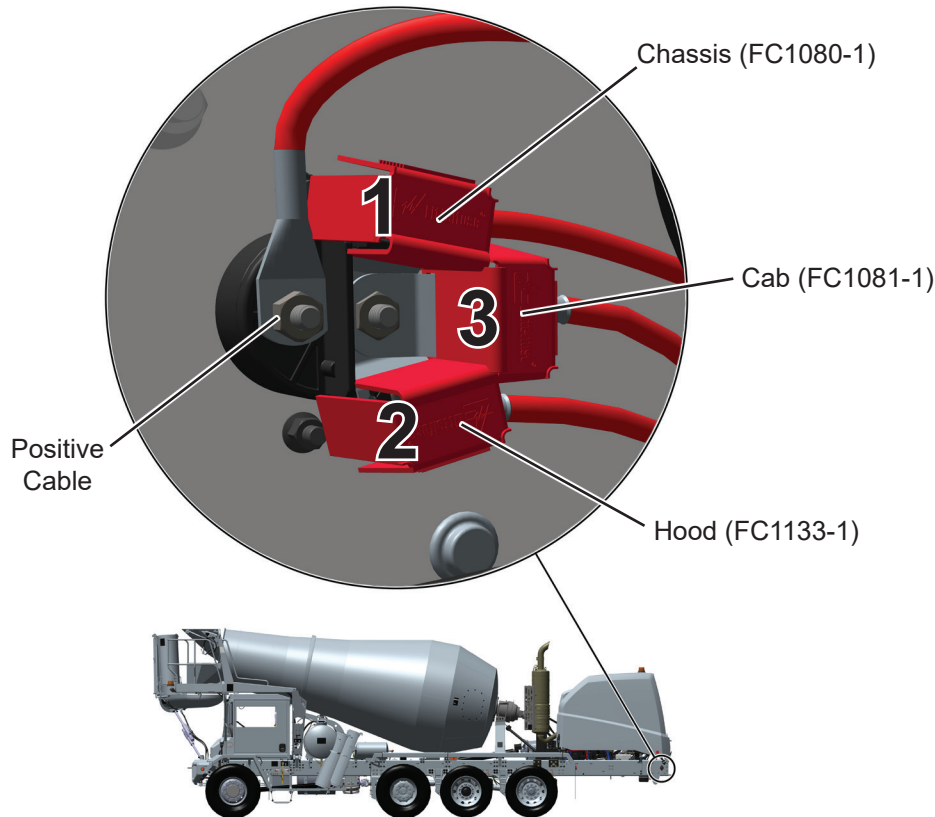

Figure 7. Battery Disconnect Switch Connections
26. Reinstall the three fuse cable terminals to the forward body stud in the order shown in Figure 7. Reinstall one nut removed in Step 25 and final tighten to 70-90 in. lbs.